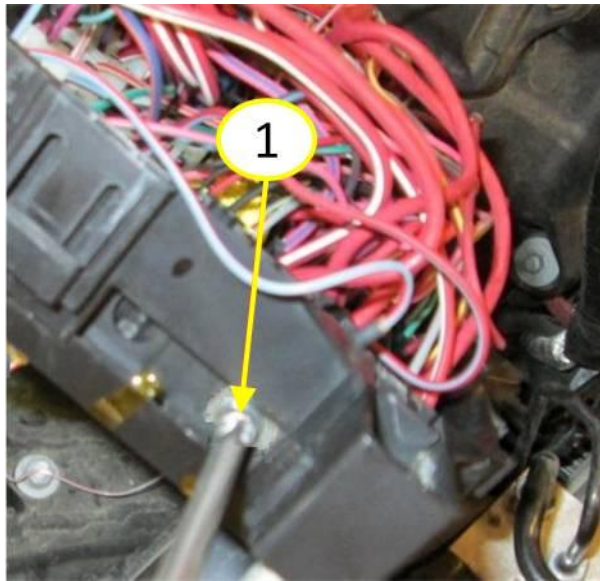

Fig. 7 Tighten Screw For Buss Bar
18. Using the 5m screw provided in the repair kit, attach the wire installed in cavity number 53A with M5 eyelet to the buss nut. Torque the screw to 2.9-3.9 Nm, see (Fig. 7).